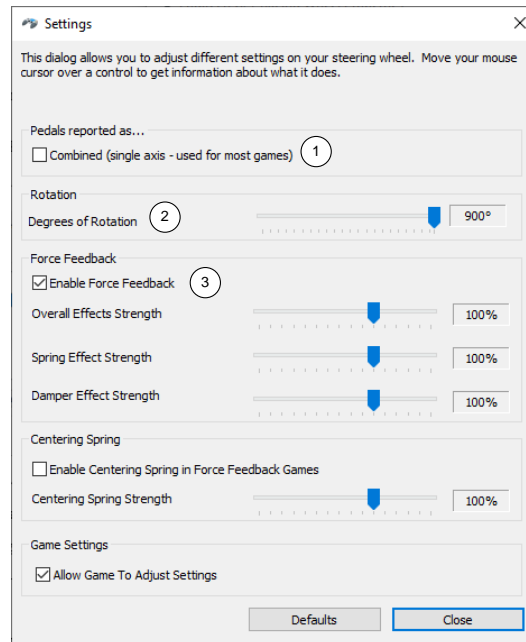

Figure 11. Logitech Settings panel.
5. On the **Settings** panel (Figure 11), make the following changes:
- ① Uncheck **Combined** (single axis – used for most games).
- ② Set **Degrees of Rotation** to 900°.
- ③ Check the box **Enable Force Feedback**.